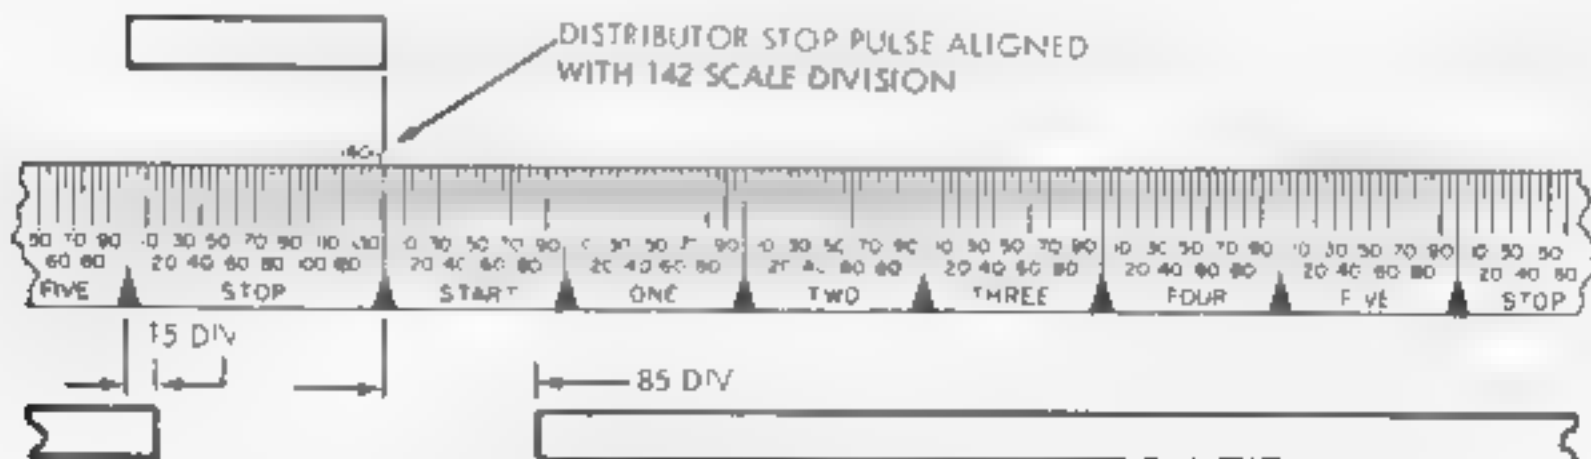

FIGURE 18. LBXD19 TRANSMITTER CONTACT REQUIREMENTS
(3) Transmitter Contacts - #1 through #5 (See Figure 18)